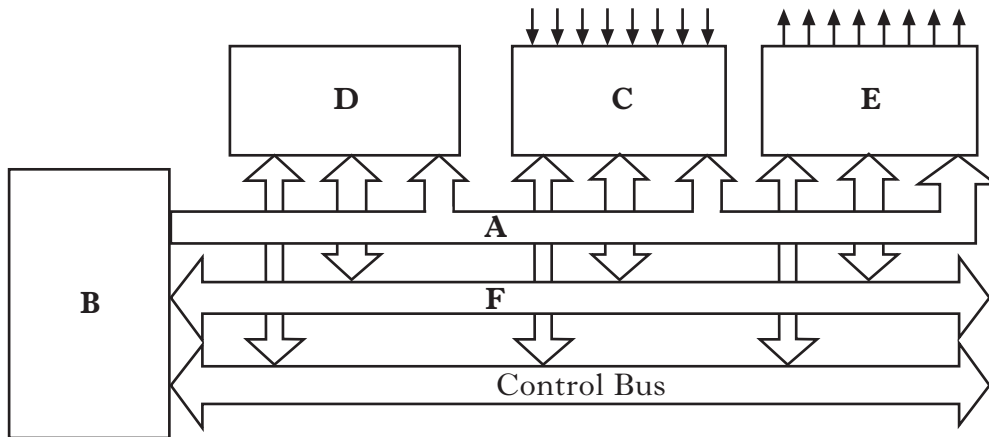

Figure Q4
- (b) Figure Q4 illustrates the basic architecture of a microcontroller. Some elements have been labelled with the letters A to F. On **Worksheet Q4, Table Q4** enter the names of the elements labelled A to F.